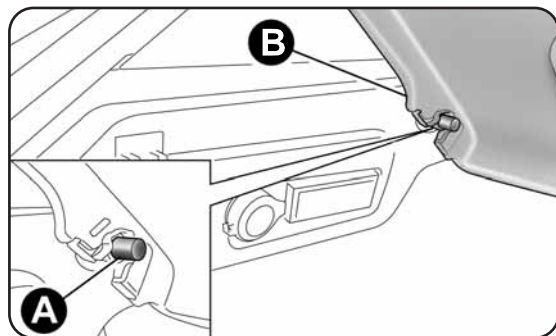

fig. 73
- release the pins A-fig. 73 on the outer side of the shelf, and then remove the shelf B by pulling it outwards.